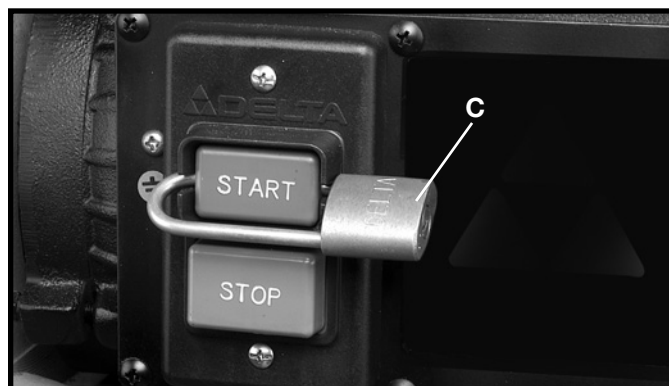

Fig. 19
IMPORTANT: When the machine is not in use, the switch should be locked in the “OFF” position to prevent unauthorized use, using a padlock (C) Fig. 19 with a 3/16” diameter shackle.